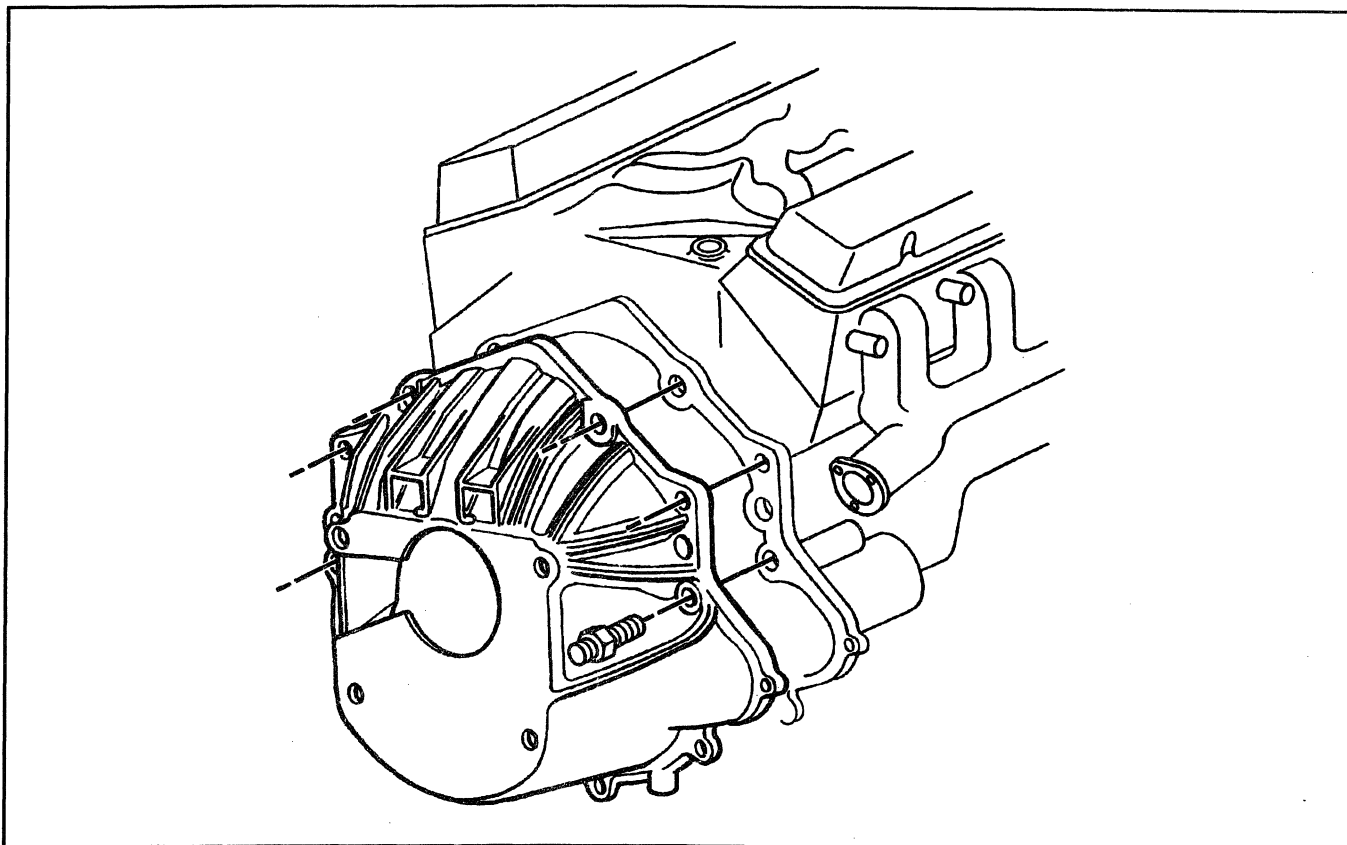

Figure 15—Clutch Housing to Engine (New Venture Gear 4500)
17. Clutch housing from engine (Figure 15).